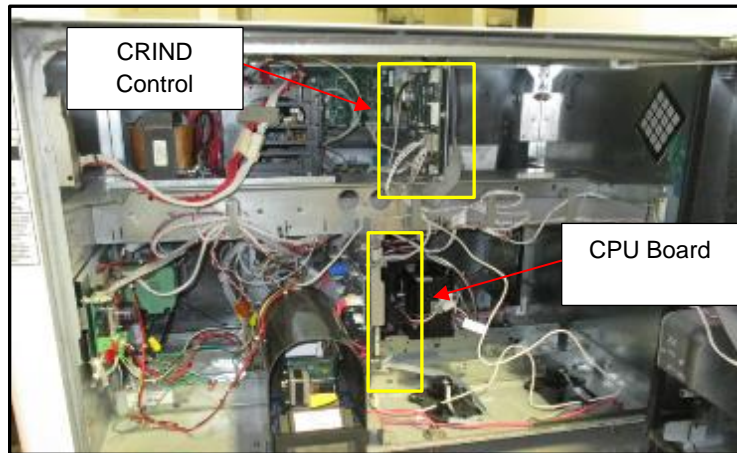

Fig 1.17 – Location of CRIND Control Node and CPU Board
33. Identify the CRIND Control Node located on the upper electronics rail inside of the electronics cavity, and the CPU Board mounted below. (Fig 1.17)